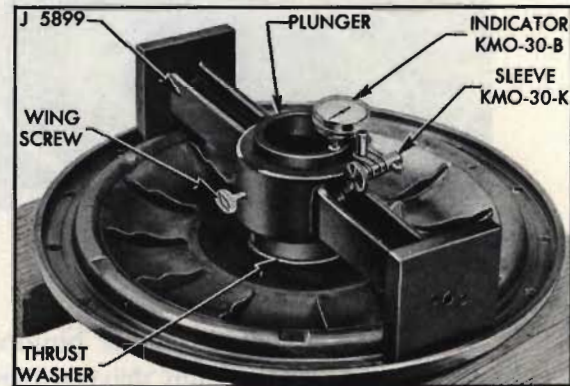

Fig. 18. Gauge J 5899 on pump cover
6. Place the converter cover on blocks, inner side up. Place the bronze thrust washer in the pump cover recess. Remove the gauge from the converter pump, *turn it over* and center it on the pump cover so that it rests squarely on the gasket surface (Fig. 18).
7. Using the dial indicator sleeve, mount the dial indicator on the adjustable post of the clearance gauge (Fig. 18). The indicator button must bear squarely against the upper end of the clearance gauge plunger. Set the indicator dial at zero.